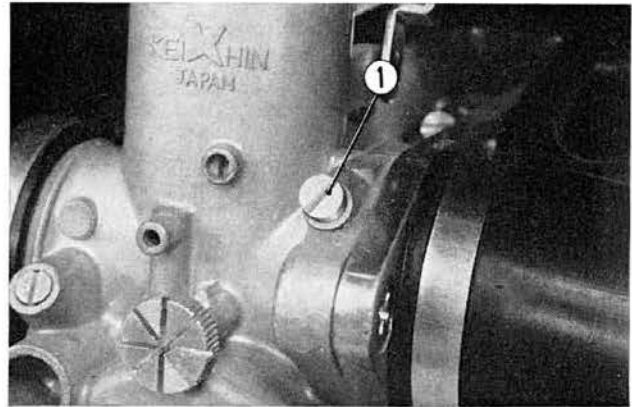

Fig. 6-16 ① plug
② Throttle stop screw
a. Stop the engine and remove the plug of adapter attachment hole on each carburetor bodies. Attach the adapters of vacuum gauge to all carburetors: the long adapters **A** are for inside carburetors and the short ones for outside carburetors. Fit the vacuum gauge hose securely on the adapters. (Fig. 6-16, 17)